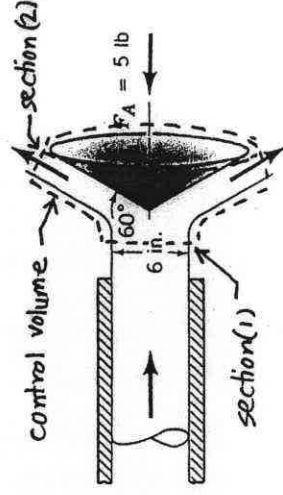

FIGURE P5.37
5.37 A horizontal circular cross section jet of air having a diameter of 6 in. strikes a conical deflector as shown in Fig. P5.37. A horizontal anchoring force of 5 lb is required to hold the cone in place. Estimate the nozzle flow rate in ft3/s. The magnitude of the velocity of the air remains constant.